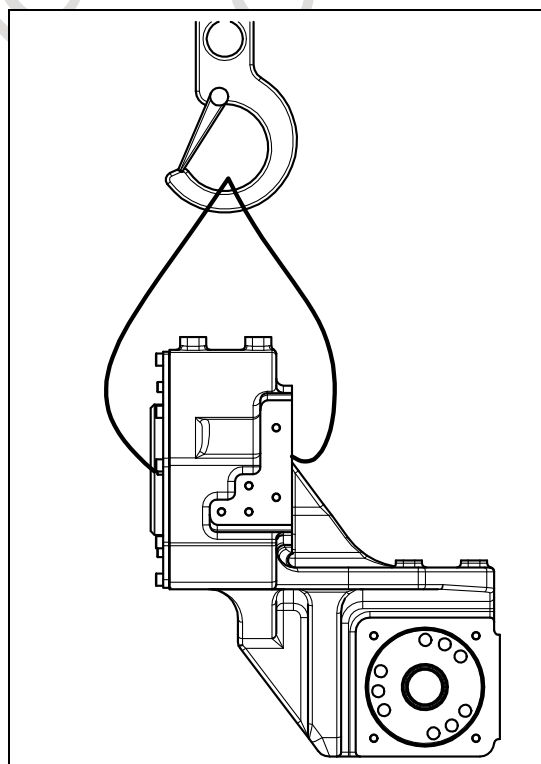

Fig. 7.10 (c) Replacing the J4-axis gearbox unit
- 11 Wind the sling around the J3 casing as shown in Fig. 7.10 (c), and hang it with a crane.